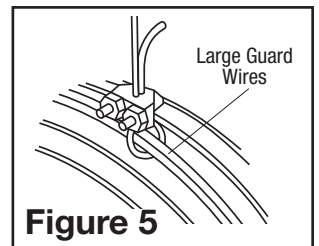

Figure 5
1. Loop one end of cable around the large guard wires of both the front and rear grills (**Figure 5**).
2. Attach a Cable Clamp with the "U" on the tail side of the loop leaving a tail approximately 1 to 2 inches. Tighten Clamp Nuts. Make sure no part of the Cable interferes with the Blade (**Figure 5**).